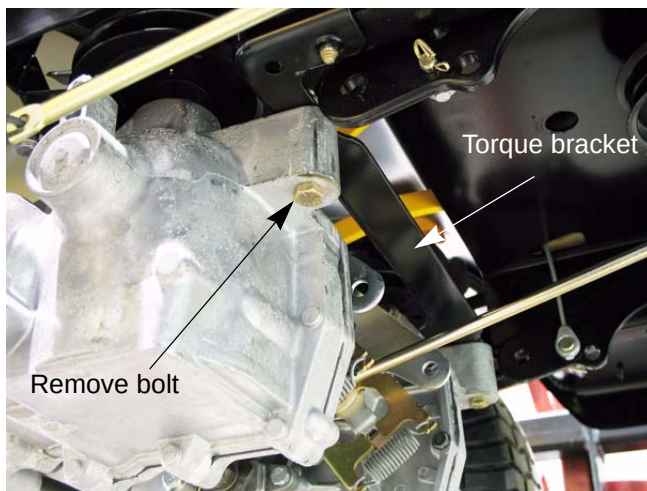

Figure 5.11
9. Remove the bolt holding the transmission to the torque bracket. See Figure 5.11.